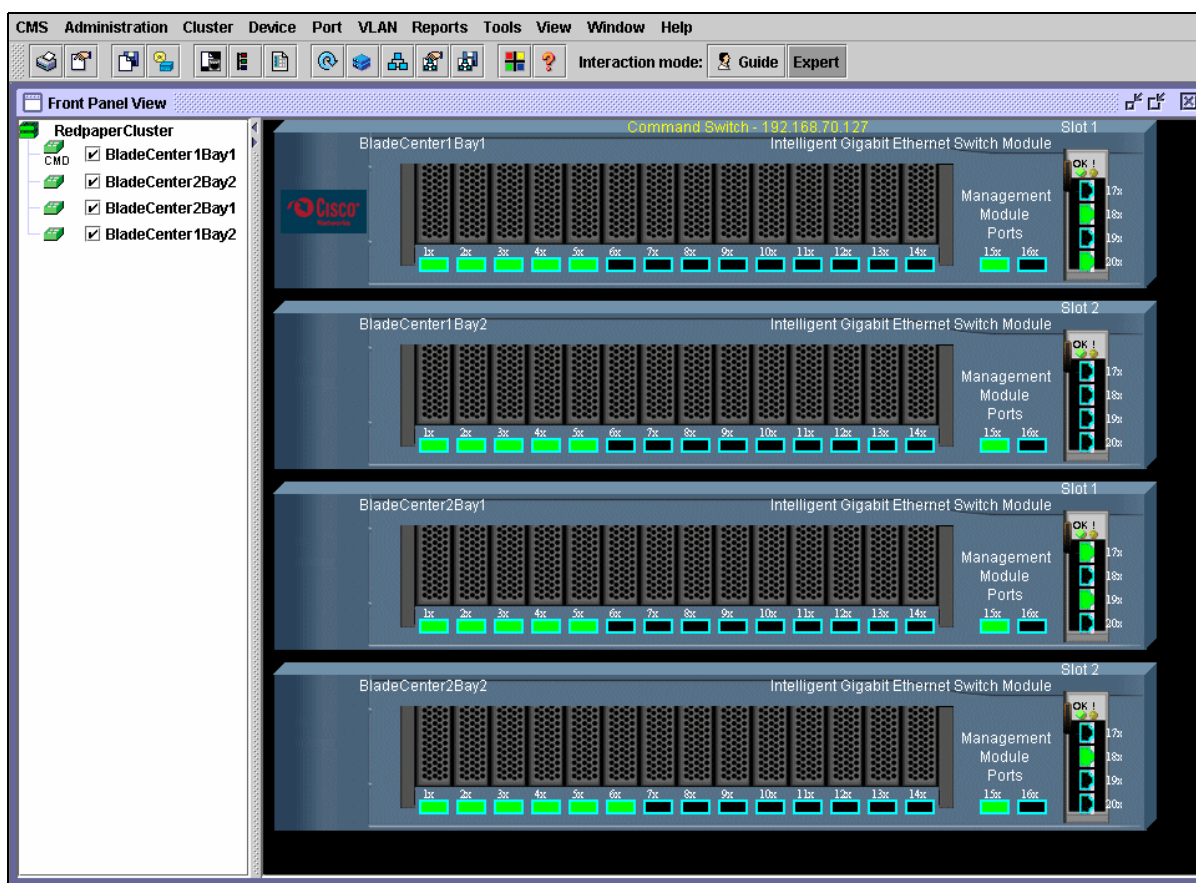

Figure 5-33 Cisco Cluster Management Suite window
- Click the box of the device you want to display on the Front Panel View (Figure 5-33). CMS queries the device and displays it. The display order can be rearranged by removing the check mark in the box and clicking the box in the order you want the devices displayed from top to bottom.